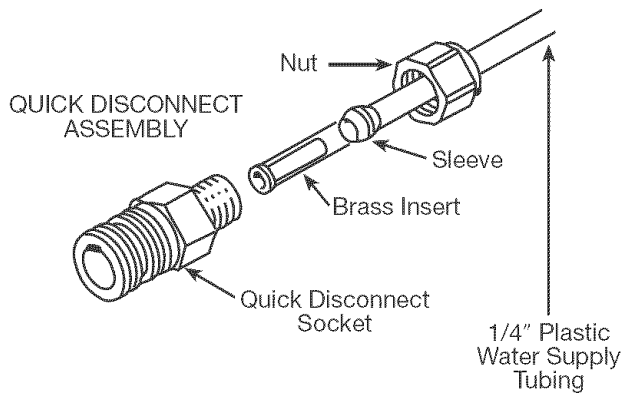

Fig. 23
10. Remove the quick disconnect socket, brass compression nut, and brass sleeve from hardware bag (Fig. 23). With water supply tubing cut to the proper length, slide the brass compression nut and sleeve over the tubing as described in Step 5, Page 10. Slip the brass insert into the end of the tubing.
11. Insert the tubing end into the quick disconnect socket as far as it will go and hold it there. Thread the brass compression nut onto the quick disconnect socket, then tighten using two wrenches, one to hold quick disconnect socket and one to tighten nut. Do not over-tighten nut (Fig. 23).